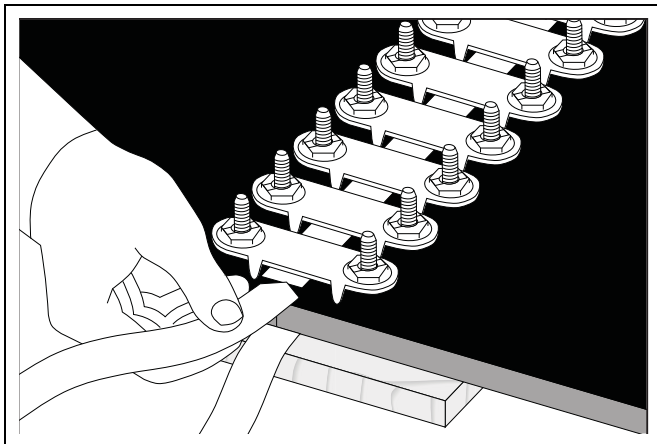

Figure 6N
8. Cut Flexco-Lok Tape 3-1/2 times the belt width and feed tape under top plates, under the bottom plates, then back under top plates. (See Figure 6N.)